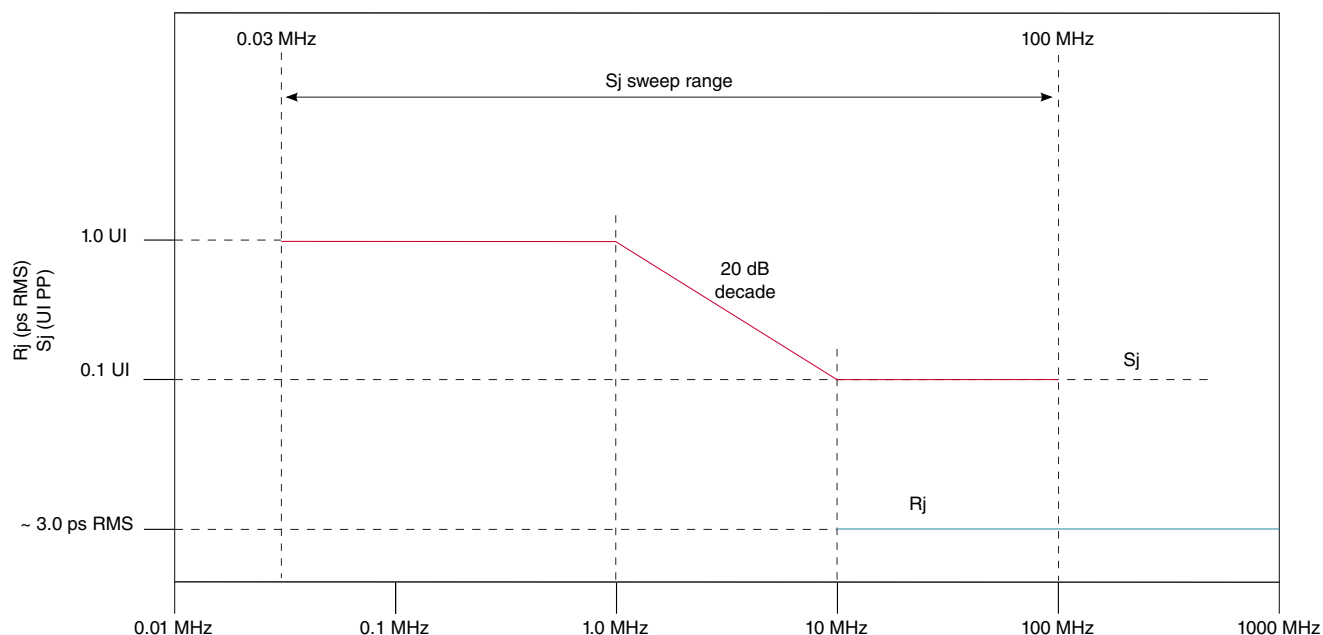

Figure 40. Swept sinusoidal jitter mask
- The sinusoidal jitter in the total jitter tolerance may have any amplitude and frequency as shown in Figure 40.
- Random jitter (Rj) is applied over the following range: The low frequency limit may be between 1.5 and 10 MHz, and the upper limit is 1.0 GHz. See Figure 40 for details. Rj may be adjusted to meet the 0.3 UI value for $T_{RX-SV-8G}$.